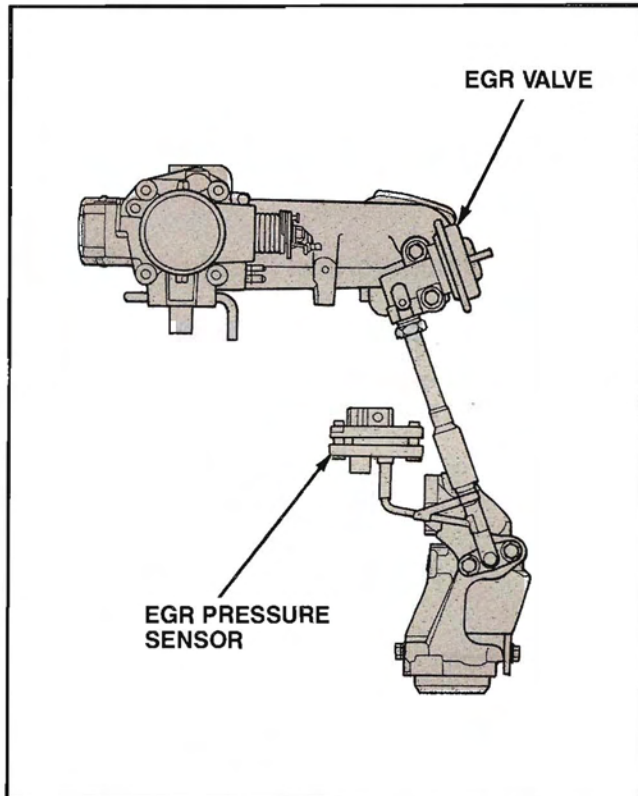

Figure 160. EGR Pressure Sensor Installation
2. Install the EGR pressure sensor (Fig. 160).